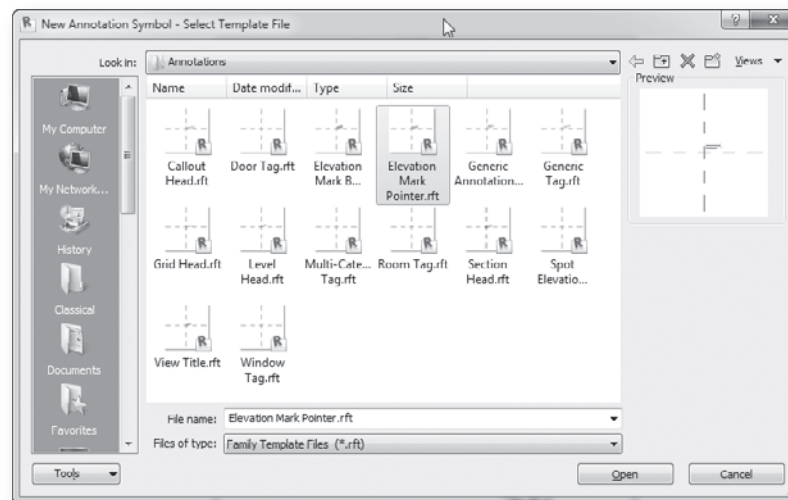

FIGURE 10.29 Create a new Annotation Family and choose an appropriate template
3. From the list of available templates, choose the *Elevation Mark Pointer.rft* template file and then click Open (see Figure 10.29).